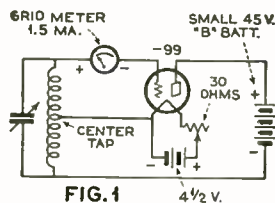

FIG. 1
(1) A radio-frequency apparatus is necessary: A satisfactory circuit is given in Fig. 1. Those experimenters who constructed the modulated oscillator described in the February, 1929, issue of RADIO NEWS may use it, for it is very well suited for use in the following tests. It is essential that the oscillator be arranged with a 1.5 milliammeter in the grid circuit in order that the output of the oscillator may be held constant. The variable condenser in the oscillator should be fitted with a good dial so that accurate adjustments can be made.